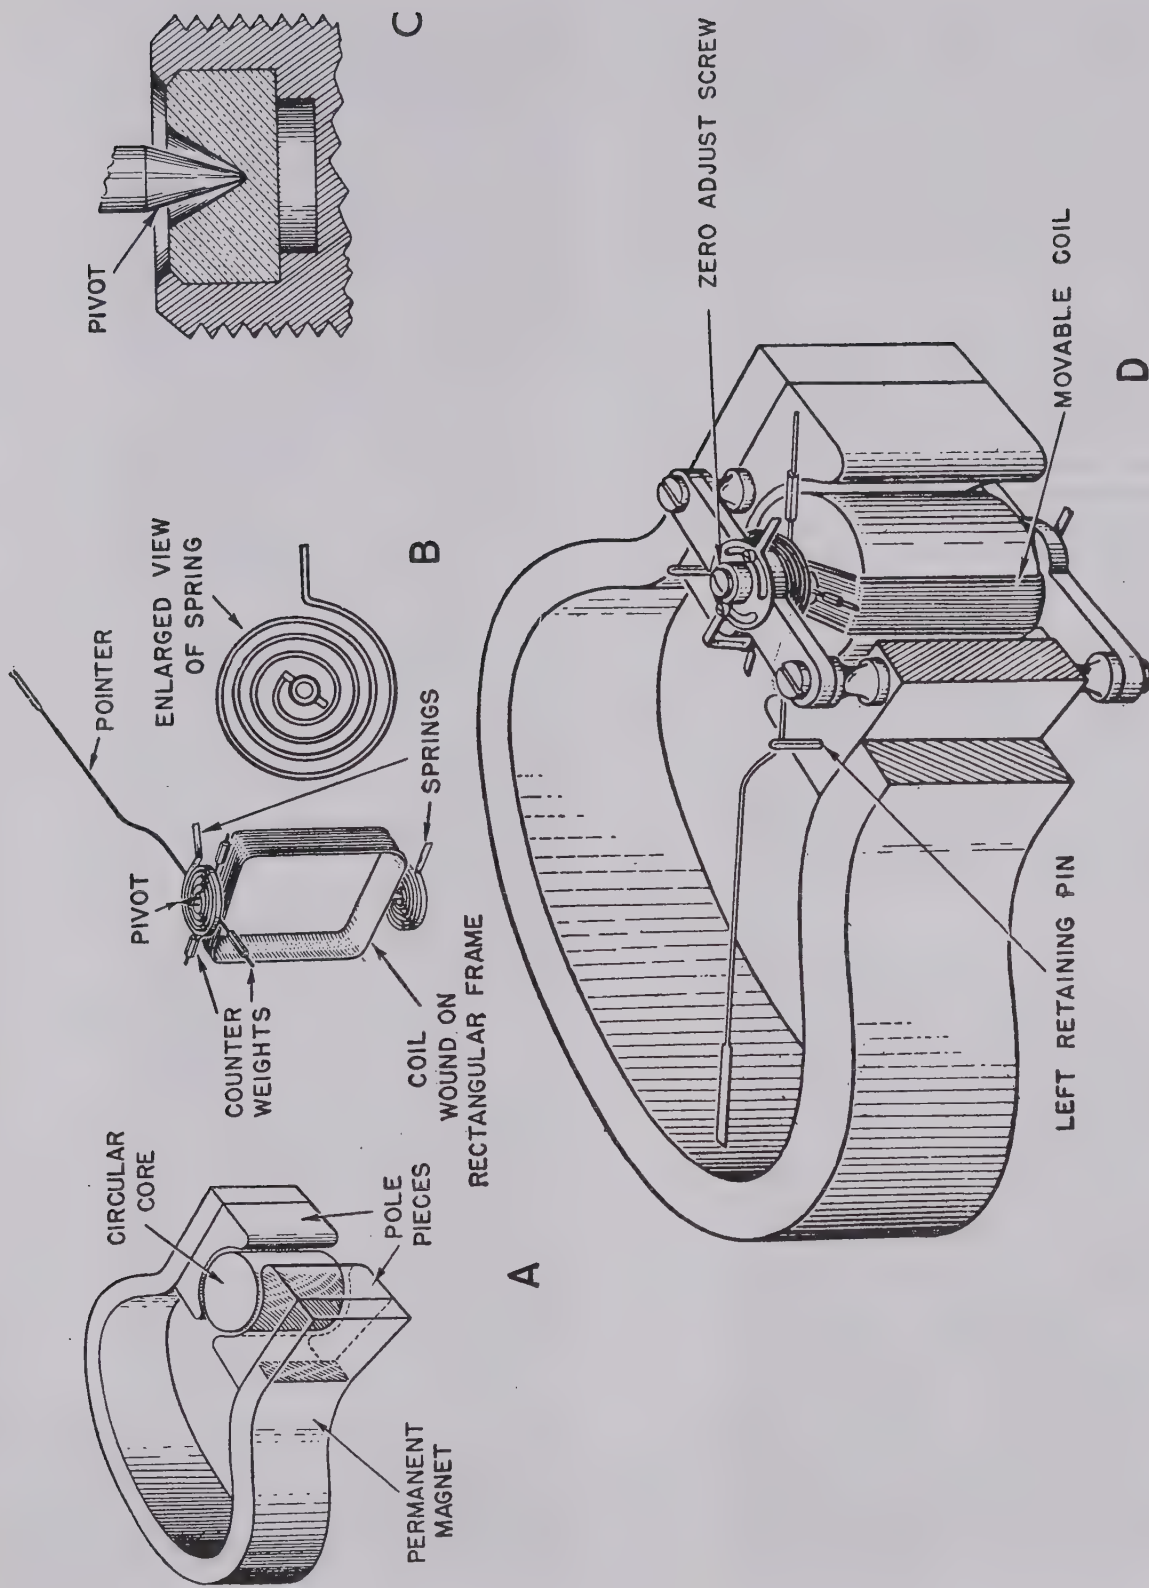

Figure 11. Component units of moving-coil meter movement.
- (1) The moving-coil meter uses a horse-shoe permanent magnet with soft-iron, semicircular pole pieces added to its ends (A, fig. 11). The magnet has a strong *nonuniform* magnetic field between the pole pieces that is not suitable for meter operation. A circular soft-iron core inserted between the pole pieces, however, results in a strong, *uniform* magnetic field in the spaces, and also helps the permanent magnet to retain its magnetism by acting as a keeper.
- (2) The moving coil consists of several turns of fine wire wound on a rectangular aluminum frame (B, fig. 11). Because the coil must be light and able to swing freely, only a limited number of turns can be placed on the frame. The fine wire allows the coil to carry only a small amount of current and this amount varies with different models. Very little current is necessary to cause a full-scale deflection of the needle.
- (3) The coil assembly is mounted in the air space between the pole pieces of the permanent magnet and the soft-iron core. Hardened-steel pivots are attached to the frame at the points where the springs are located, and the pivots fit into jeweled bearings, allowing the coil to turn with a minimum of friction (C, fig. 11). The indicating needle is attached to the coil assembly, swinging with it, and tiny counterweights are used to balance the assembly on its pivots. The two ends of the coil are connected to two springs, one on each side of the aluminum frame. The other ends of these springs go to the external circuit, from which current is fed to the coil. A screw on the front of the movement zero-adjusts the pointer to zero-scale reading for zero current (D, fig. 11).
itely wound, tries to move it in the other direction. Because they are matched springs, their actions cancel and the needle remains at the 0 position. This makes it unnecessary to zero-set the meter every time there is a change of temperature. The springs usually are made of nonmagnetic phosphor bronze, and have a low resistance to current flow. Since the springs are good conductors, they are used to carry the current from the coil assembly to the external connections of the meter. Moving-coil meters have a zero-adjust screw which physically moves one spring (D, fig. 11) and varies the position of the coil and needle to some extent. If the needle is not on 0 when there is no current flowing through the meter, it should be zero-set by adjusting this screw before any readings are taken.